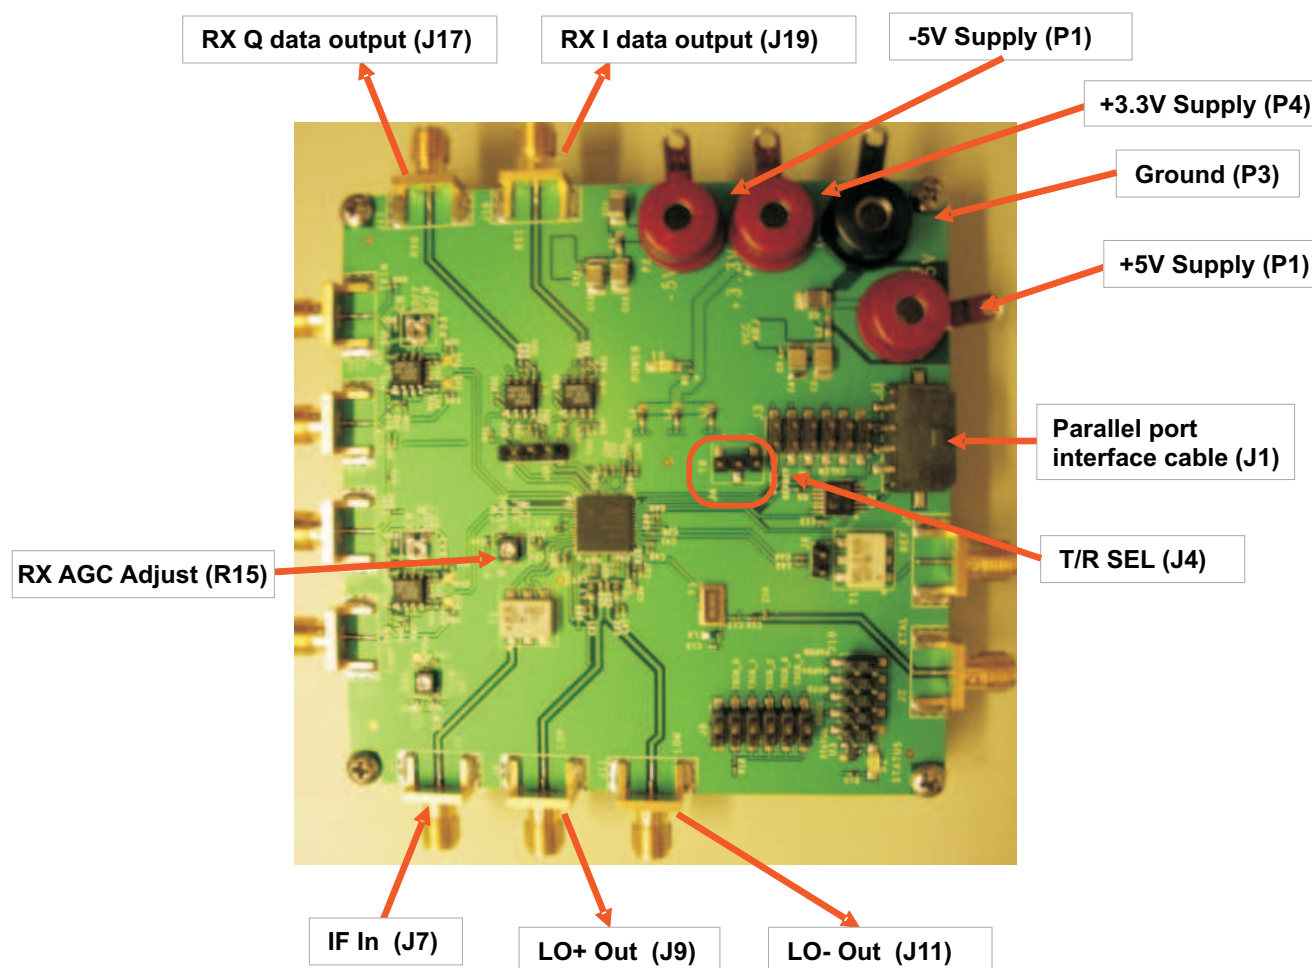

Figure 4. Connections for RX Operation
1. Connect equipment to reference board as shown in Figure 4.